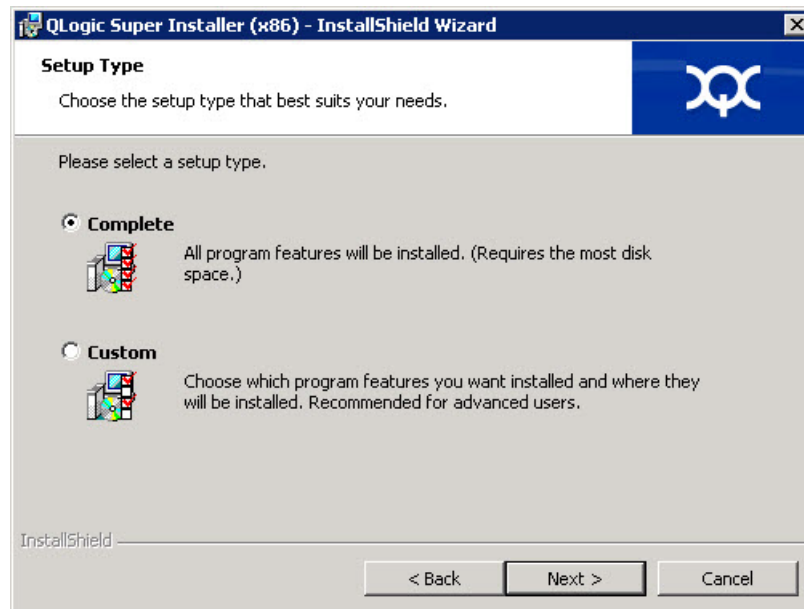

Figure 2-4. InstallShield Wizard: Setup Type Window
5. Complete the wizard's Setup Type window (Figure 2-4) as follows: